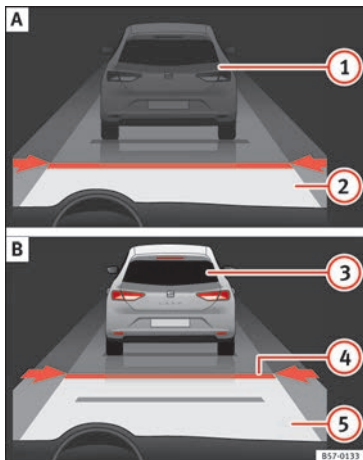

Fig. 209 On the instrument panel display: (A) ACC inactive (Standby). (B) ACC active.
Indications on the display »» **Fig. 209:**
programmed speed and ACC status will be displayed **» Fig. 209**.
Any modification to the programmed speed will be shown on the bottom left part of the instrument panel display **» Fig. 209**.
- To activate the ACC, with the third lever in position **1** press the **SET** button or move the third lever of the ACC to position **2** **» Fig. 211**. At this point, the image of the ACC on the instrument panel display will switch to *Active* mode **» Fig. 209**.